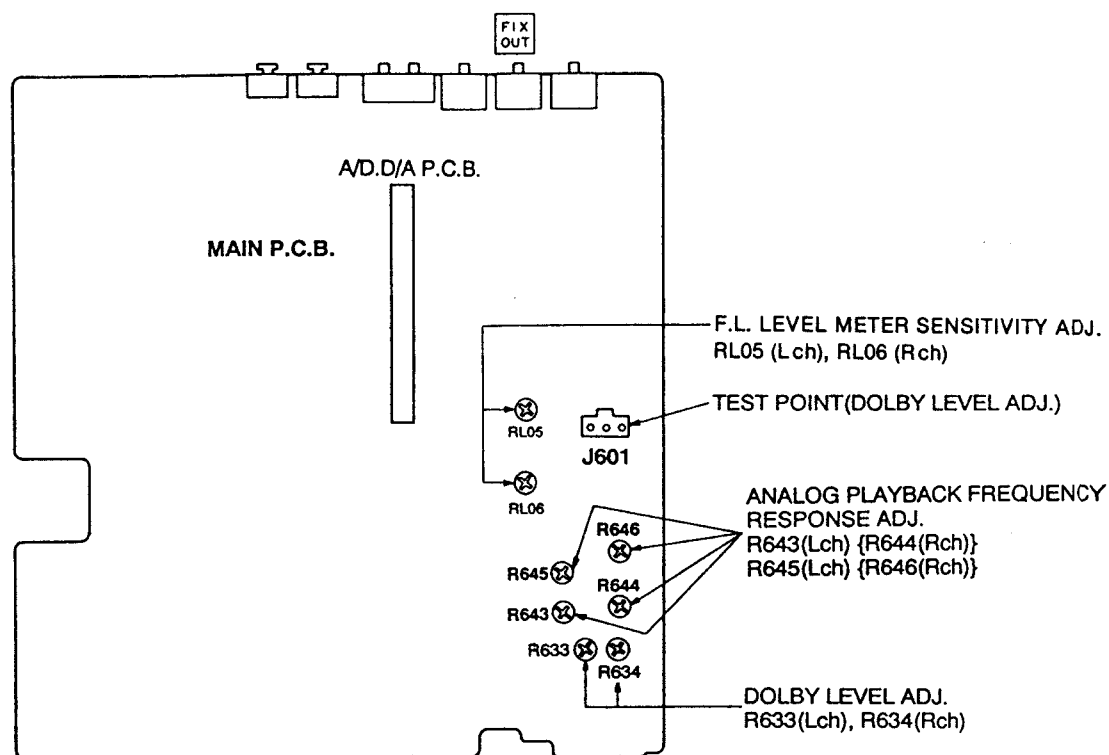

Fig. 25
- (1) While playing back the Dolby level tape (RFKZ0038), adjust the voltage at test point J601 to 33mV using R633 (Lch) and R634 (Rch) (See Fig. 25).
- Play the 1kHz and 12.5kHz test tones on the **ACC Test tape (QZZCFM)** and adjust potentiometers **R643** (Lch) and **R644** (Rch) until the FIXED OUT output level at 12.5kHz is within $0 \pm 0/-1$ dB from at 1kHz. (See Fig. 25)
- (1) Load a **DCC Blank tape (RFKZ0033)** in the unit under test and place it in **REC PAUSE** mode.
- (2) Load the **CD Test disc (SZZP1054C)** in the CD player and play the second band (1 kHz, 0dB, L+R signal).
- (3) Adjust potentiometers RL05 (Lch) and RL06 (Rch) so the DCC unit's FL level meters indicate 0 to –2dB (See Fig. 25).